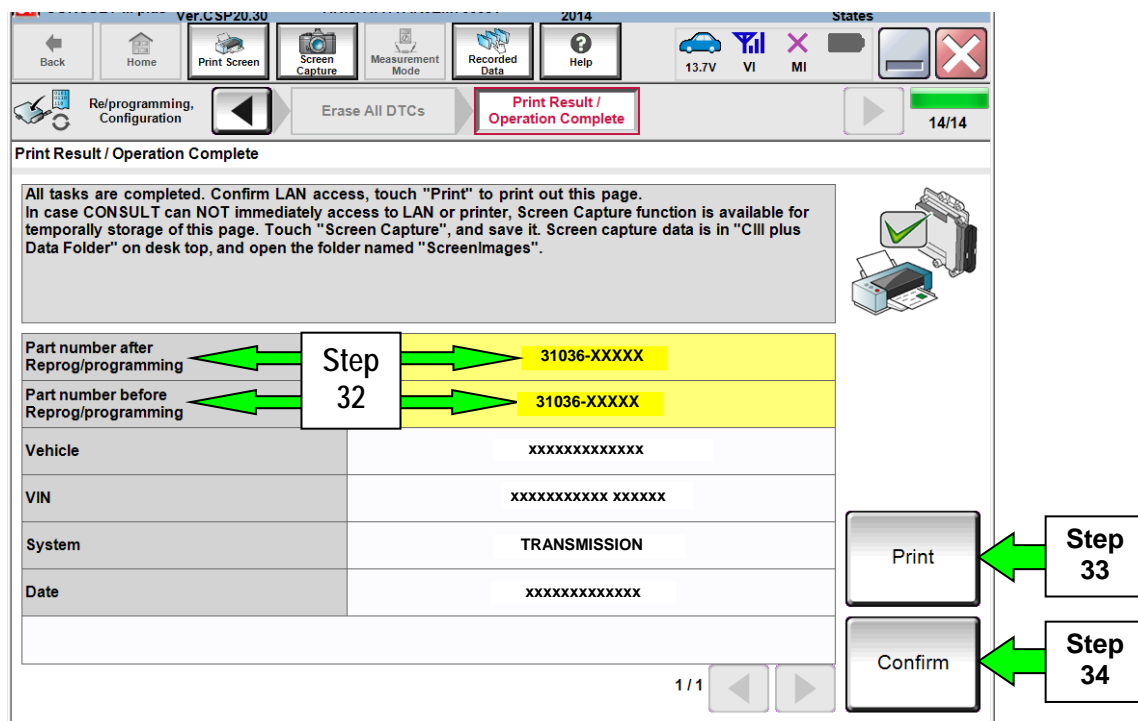

Figure 22A
31. When the entire reprogramming process is complete, the screen in Figure 22A will display.
33. Print a copy of this screen (Figure 22A) and attach it to the repair order for warranty documentation.